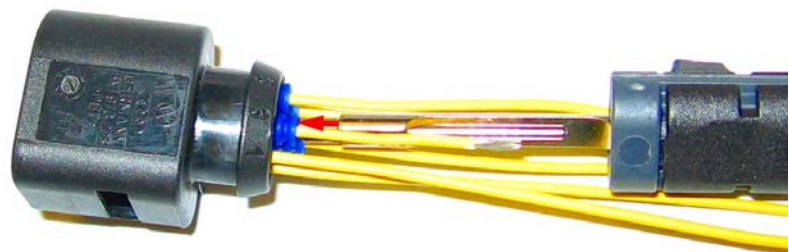

Figure 3. The single wire seal, slid as far as the stop.
7. Using the appropriate assembly tool, slide the single wire seal up the repair wire until it contacts the housing. Continue to slide the single wire seal into the housing as far as the stop (Figure 3).